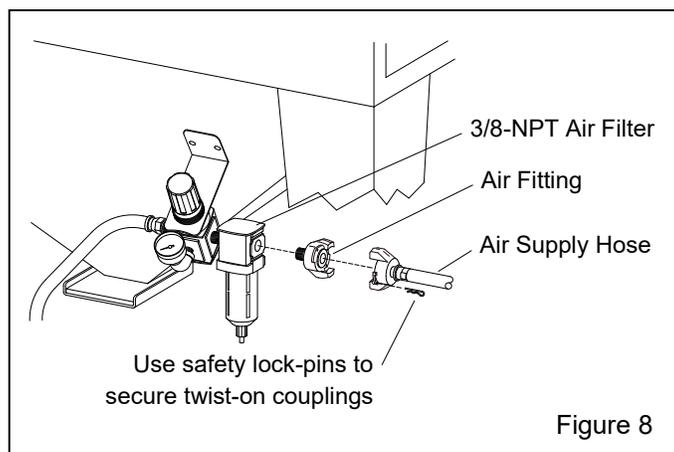

Figure 8
2.3.2 Refer to Figure 8 Apply thread sealant to the male threads of an air fitting that is compatible with the air supply hose fitting and install it onto the 3/8-NPT air filter located under the cabinet hopper. If preferred, slip a short length of 1/4" tubing over the filter's drain barb to direct drain water into a container. **Note that the style of connection shown in Figure 8 is for reference only.**